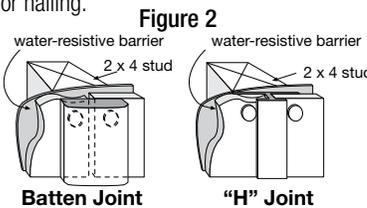

Figure 2
- Vertical Joints - Install panels in moderate contact (fig. 1), alternatively joints may also be covered with battens, PVC or metal jointers or caulked (Not applicable to ColorPlus® Finish) (fig. 2).